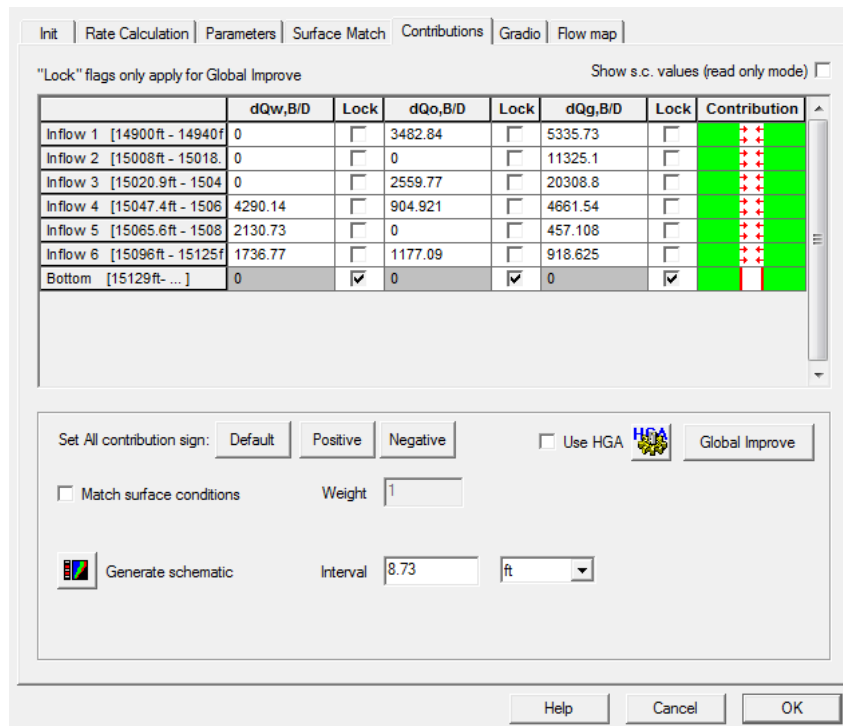

Fig. B03.6 • Contributions
- Go to 'Zone Rates', and activate the 'Contributions' tab, Fig. B03.6.